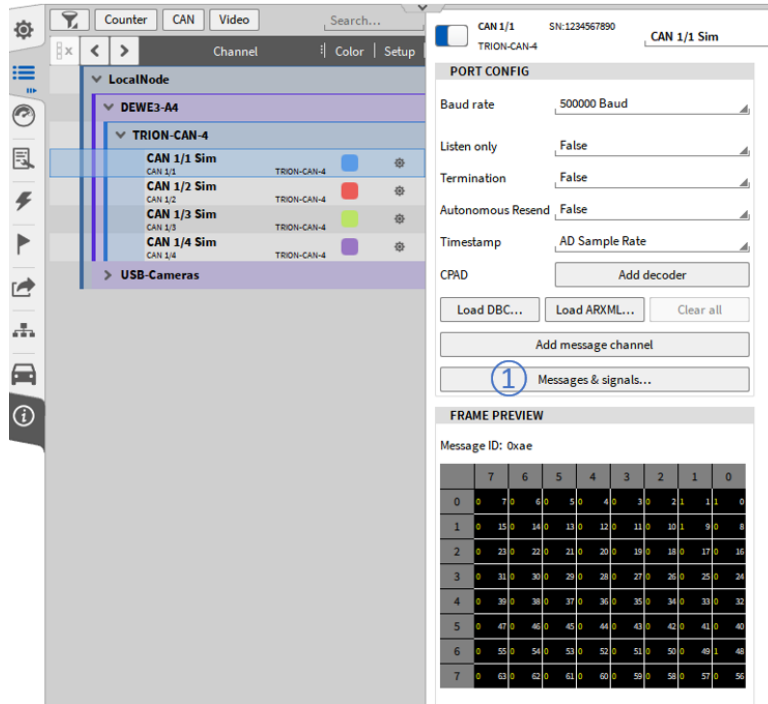

Fig. 7.206: CAN port configuration
Instead of using .dbc or .arxml files for data decoding it is also possible to add CAN messages and signals manually. OXYGEN provides a CAN editor for this purpose which can be opened by pressing the *Messages & signal* button the CAN port configuration (see ① in Fig. 7.206):